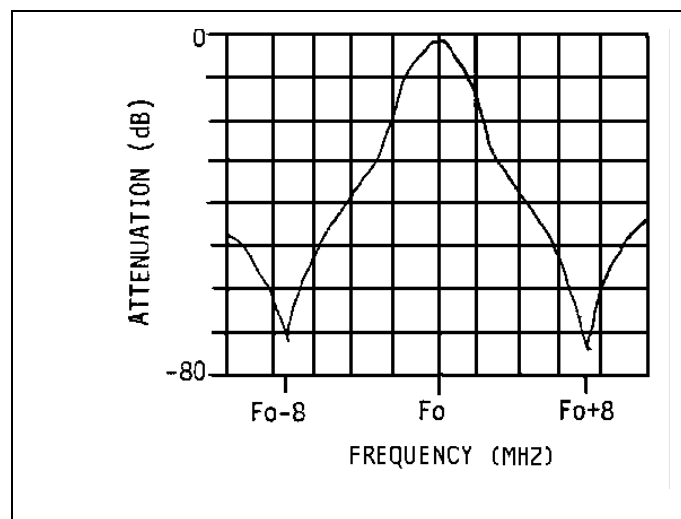

Figure 2
- Tune capacitors A and B to obtain rejection notches at approximately 8 to 10 MHz away from the center frequency, as shown in Figure 2.
- Tune capacitors C and D to obtain rejection notches at approximately 8 to 10 MHz away from the center frequency, as shown in Figure 2.